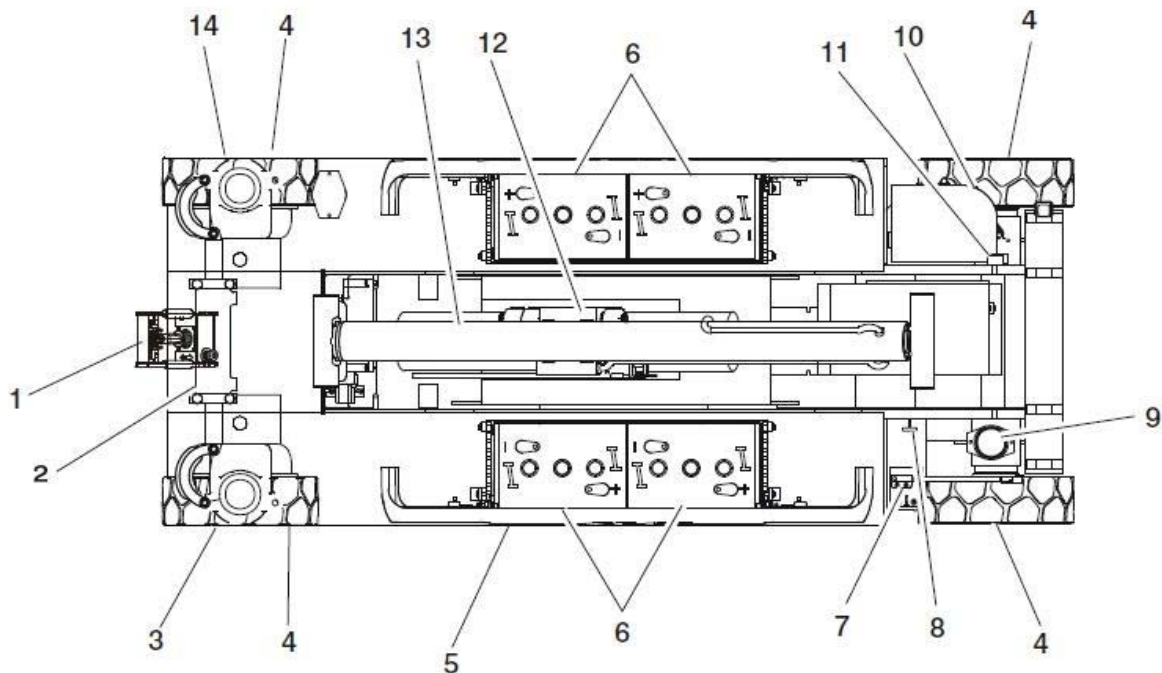

Figure 2-1. Daily Walk-Around Inspection - Sheet 1 of 3
- 5. “Walk-Around” Inspection** – Refer to Figure 2-1